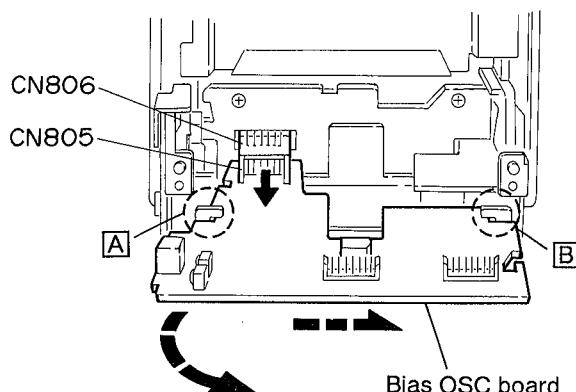

Fig. 5-9
■ Removing the bias OSC P.C. board (See Fig. 5-9)
*For assembly, Align the bias OSC P.C. board to the section [B], and after sliding the bias OSC P.C. board in the arrow direction (1), plug in the connector CN805 while aligning it to the section [B].